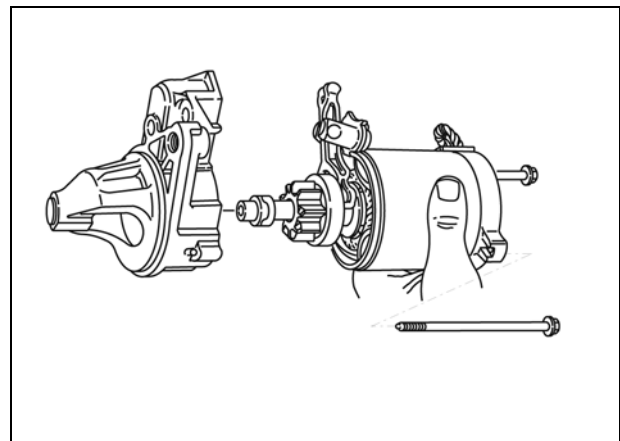

Figure 58
4. Remove brush retainer plate (**A**, Figure 58).